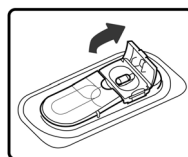

Figure 7. Open the PillCam Genius SB capsule package lid
1. Place the package on a flat surface as shown in Figure 7. Tear the sealing tab on top of the PillCam Genius SB capsule package to open the capsule package lid.